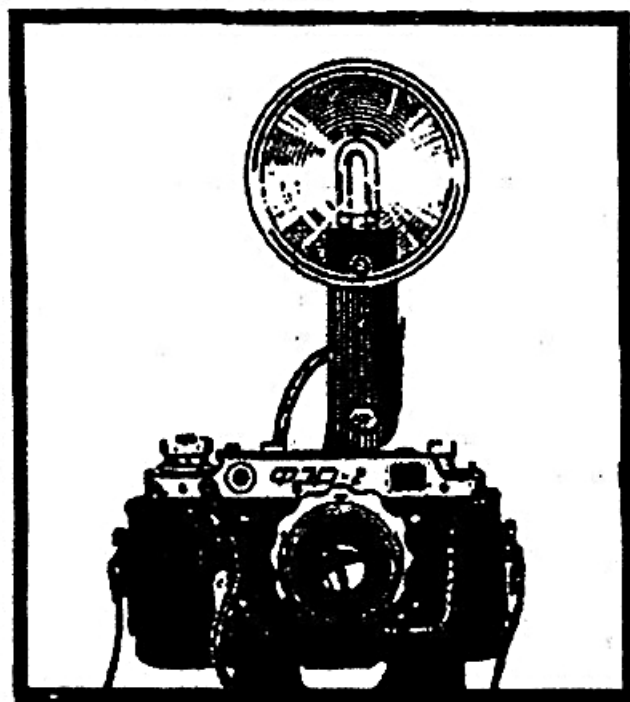

Fig. 13.
If the lighting conditions are poor, there may arise a necessity of using powerful sources of light-flash lamps. The camera shutter is provided with a synchronizer which connects the moment of flash with the shutter release. The synchronizer is designed for the use of flash bulbs and multiflashes with inertia time within 0 ± 1 millisecond. The flash lamp is connected with the camera plug socket (9) by means of a special conductor with a terminal (Fig. 13). The flash reflector is usually fastened with a special cleat to the tripod bush of the camera or is set into the clamp of the camera (Fig. 13). The synchronizer of the ФЭД-2 camera has an interlock device which disconnects the electric circuit while the shutter is being wound.